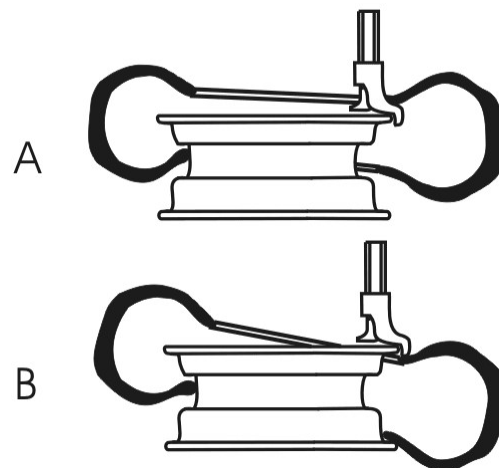

Fig.24
- Depress the tyre and press the pedal D to make the working plate clockwise rotation until the under bead into the rim(Fig. 24-A)